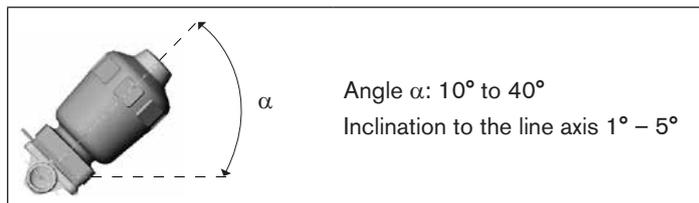

Fig. 25: Installation position for self-drainage of the body
- Install body inclined by angle $\alpha = 10^\circ$ to 40° to the horizontal (see "Fig. 25: Installation position for self-drainage of the body").